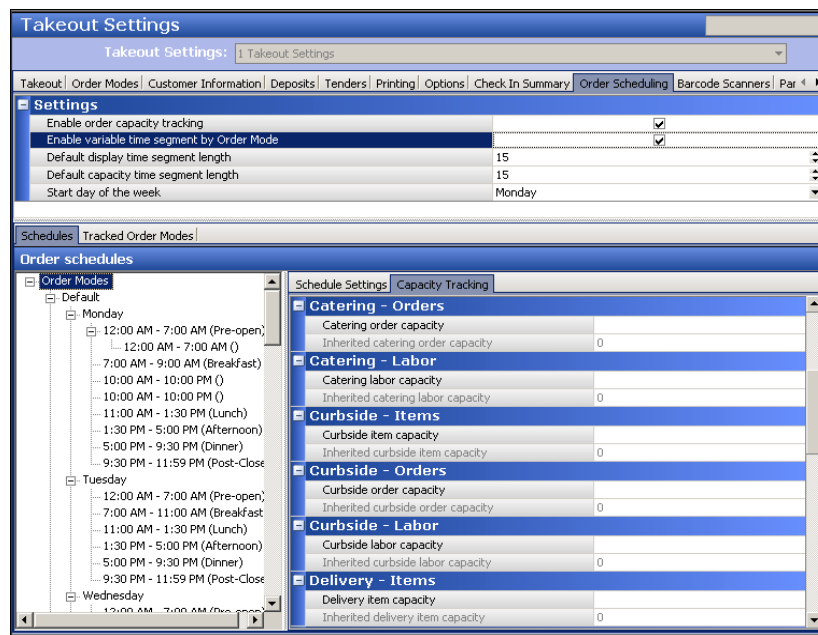

Figure 2 Takeout Settings - Order Scheduling Tab
1. With the Order Scheduling tab still displayed, right click a day of the week in the 'Order schedules' window (Figure 2), and select Add New from the menu that appears to create an order scheduling day part.
1. With the Order Scheduling tab displayed, and under the 'Settings' group bar (Figure 2), select **Enable order capacity tracking** to track the number of orders and items, per time segment, enforcing limitations you place on them. This option also displays the Tracked Order Modes and Schedules > Capacity Tracking tabs.